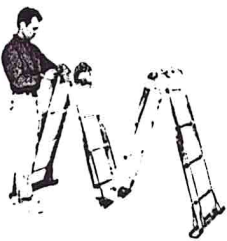

FIGURE 3.
- 3) Unlock remaining hinges and position rail as shown in figure 3. Lock the hinges.